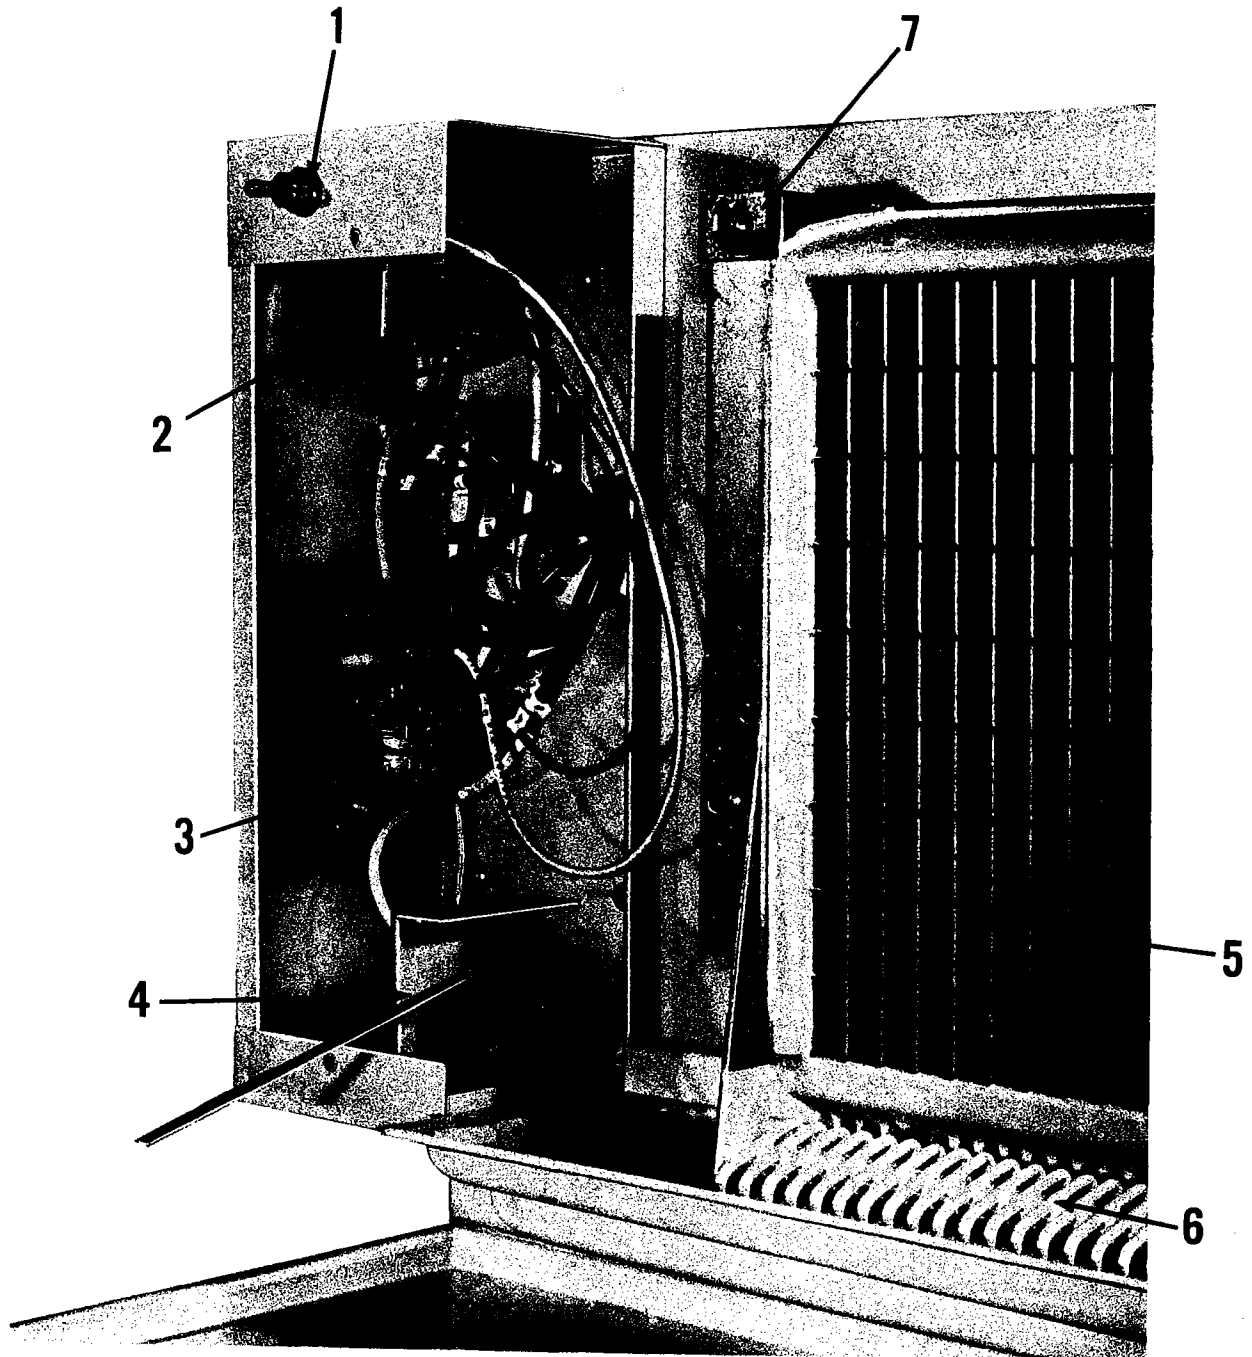

FIG. 4 — CONTROL BOX
1. Remove cover from the control box Fig. 4.